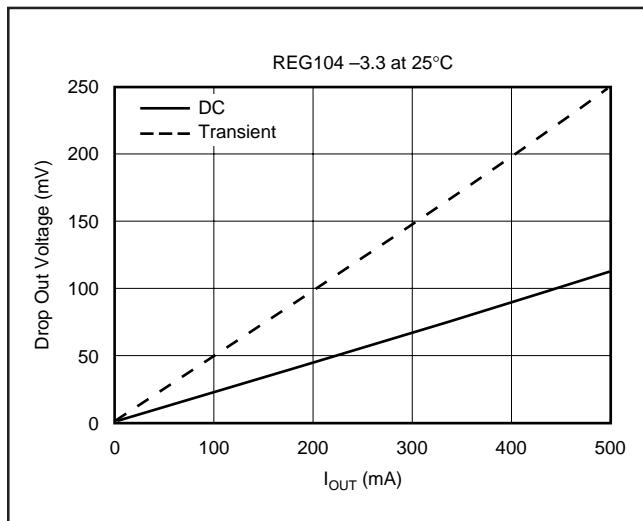

FIGURE 8. Transient and DC Dropout.
The REG104 uses an N-channel DMOS as the pass element. When the input voltage is within a few hundred millivolts of the output voltage, the DMOS device behaves like a resistor. Therefore, for low values of V_{IN} to V_{OUT} , the regulator's input-to-output resistance is the $R_{DS,ON}$ of the DMOS pass element (typically 230mΩ). For static (DC) loads, the REG104 will typically maintain regulation down to V_{IN} to V_{OUT} voltage drop of 230mV at full rated output current. In Figure 8, the bottom line (DC dropout) shows the minimum V_{IN} to V_{OUT} voltage drop required to prevent dropout under DC load conditions.
For large step changes in load current, the REG104 requires a larger voltage drop across it to avoid degraded transient response. The boundary of this *transient dropout* region is shown as the top line in Figure 8. Values of V_{IN} to V_{OUT} voltage drop above this line insure normal transient response.